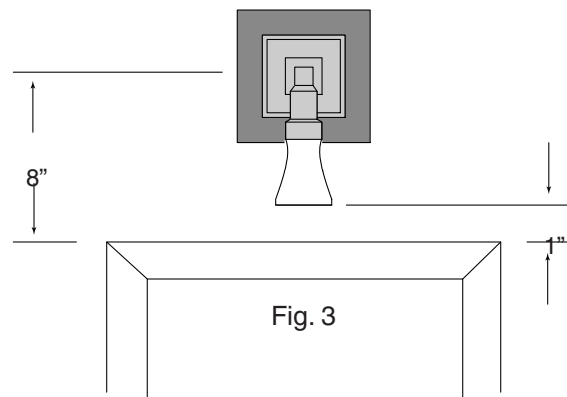

Fig. 3
1. For positioning above the cabinet, there must be a minimum of 1" between the light shade and the path of the door swing. To ensure this correct placement install the sconce 8" min above the top of the cabinet door. See Fig. 3